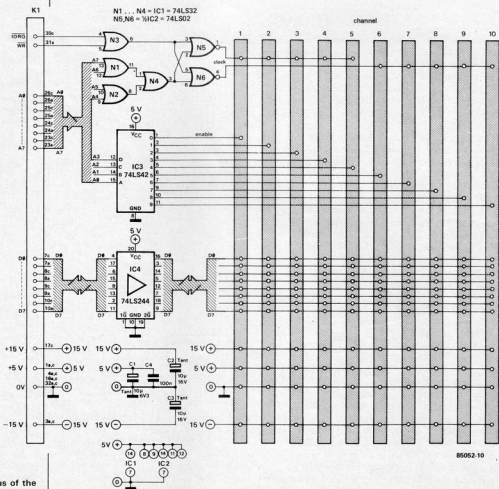

Figure 10. The bus of the polyphonic synthesizer can be connected to the DCOs in figure 2, 6, and 8 without any modification.
from up to eight octaves, with the possibility of pulse-width modulation, in one channel. If you want to replace the VCO in the polyphonic synthesizer (described in a number of issues of Elektor (UK) between October 1981 and July 1982) by the DCO, the bus layout of figure 10 may be maintained. The EPROM content is given in table 2. In pulse-width modulation, the modulating signal is usually generated by an analogue low frequency oscillator and this must here, therefore, be followed by an analogue/digital converter. The use of the music quantizer (Elektor, November 1983, p. 11-18) may provide further interesting musical effects.